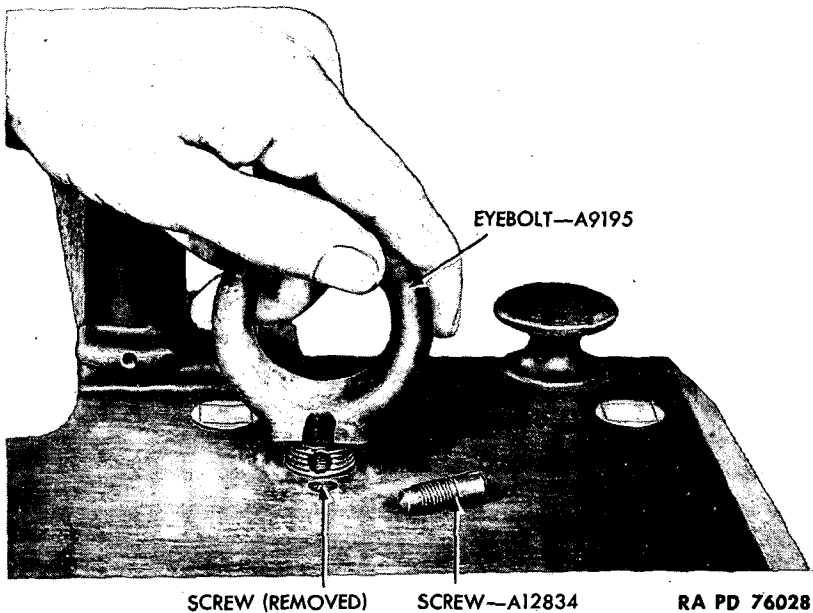

Figure 41—Removing Eyebolt
(8) **DAMAGED EYEBOLT.** Remove eyebolt retaining screw, then unscrew and remove the damaged eyebolt. Screw new eyebolt in tight and secure with set screw (fig. 41).